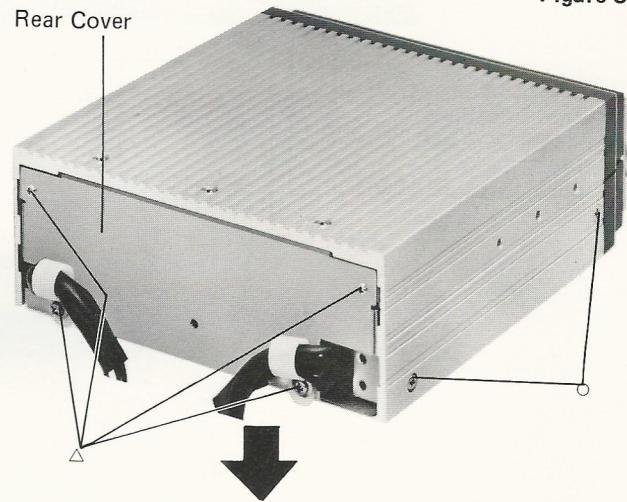

Figure 4
- (1) Remove four screws marked "△" as shown in Figure 4.
- (2) Pull the rear chassis downwards in the arrow direction as shown in Figure 4. In this case, take care of output connectors not to damage them.